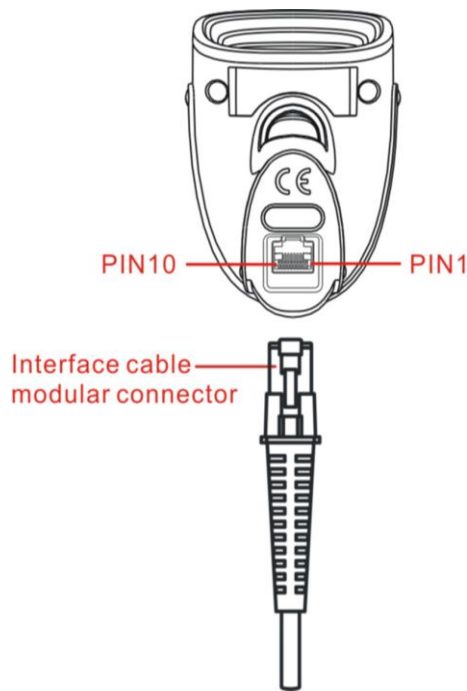

Figure 2-3 Cable connector interface pin-outs
1. Refer to Figure 2-3, connect the USB interface cable to the bottom of the scanner.